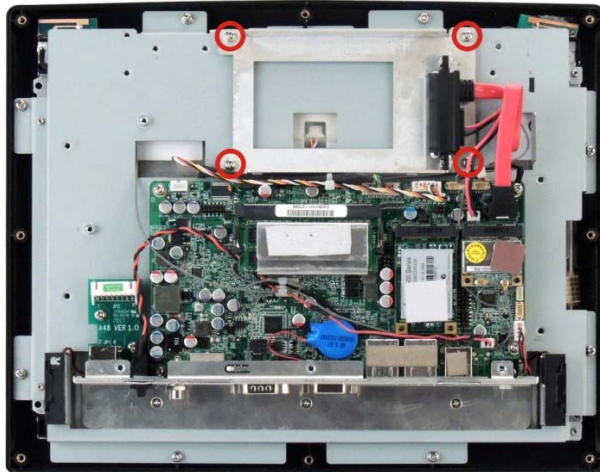

Figure 3-9: AF-12A-N26 HDD Bracket Retention Screws
Step 2: Remove the four HDD bracket retention screws (**Figure 3-9**). Disconnect the SATA cable and the SATA power cable. Lift the HDD bracket off the panel PC.